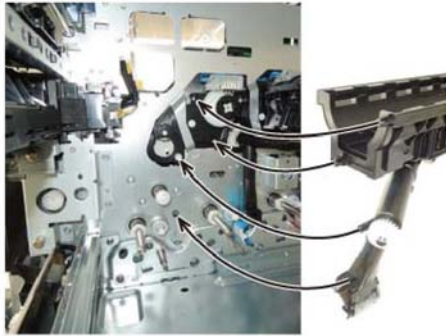

Figure 4 Dispenser K install
- When installing dispenser (K), insert the boss (x4) at the rear of dispenser (K) into the installation holes, Figure 4.